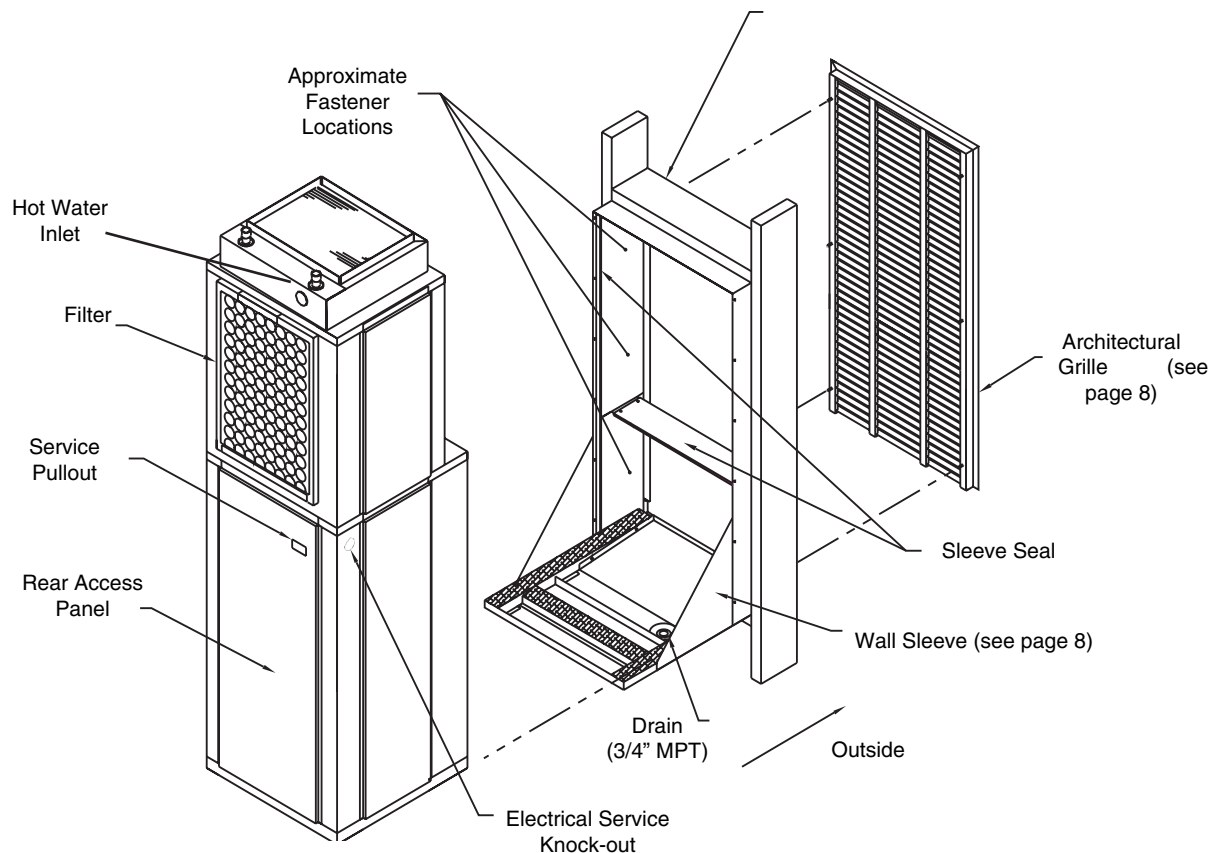

Figure 1 - General Assembly
5. **Wall Sleeve** – (See Figures 1, 4 and 5) Rear or side install wall sleeves are provided for installation during rough-in and, when ready, the **SPXB-HW** unit is simply slid into the sleeve and the ductwork and electrical connected. The sleeve is a weight-bearing sleeve that supports the entire weight of the **SPXB-HW** unit and provides a weather tight seal against wind and water infiltration. A 3/4" male NPT fitting is provided in the bottom of the sleeve for field connection to a condensate riser. Four wall sleeve depths are available to accommodate wall thickness from 5" to 20". Each sleeve includes a factory installed "weather guard" to cover the sleeve opening during construction.